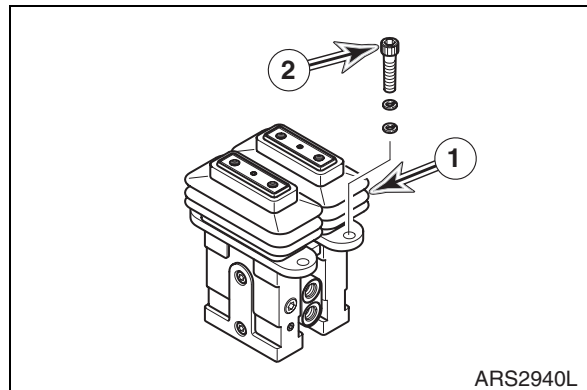

Figure 51
4. Connect hoses as tagged during removal to pedal valve (1, Figure 51).